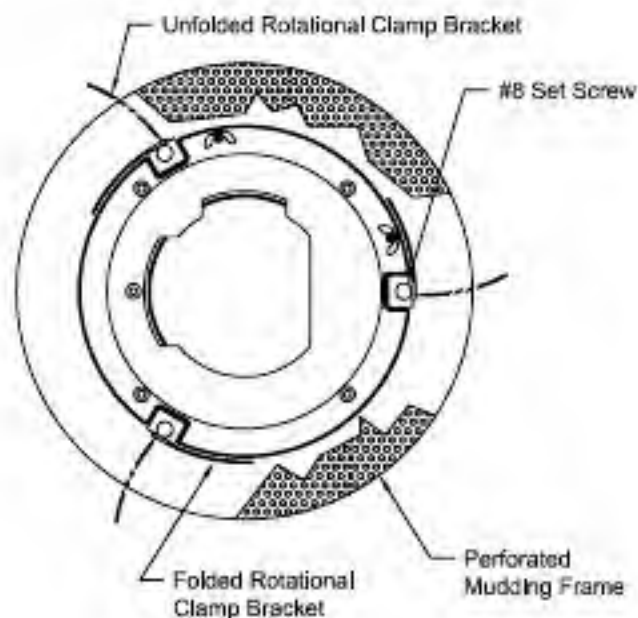
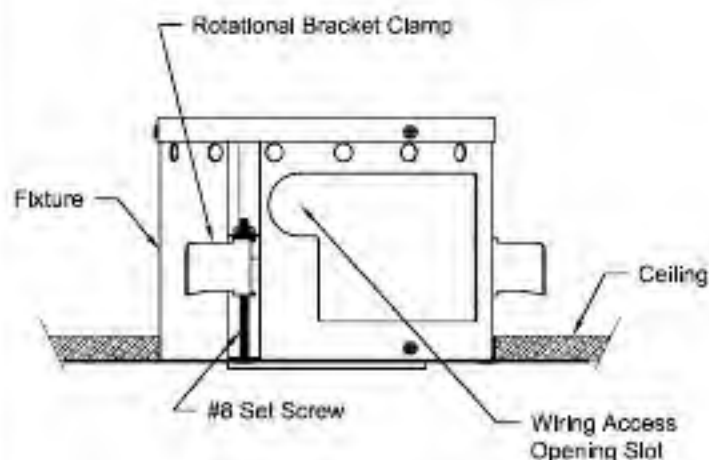
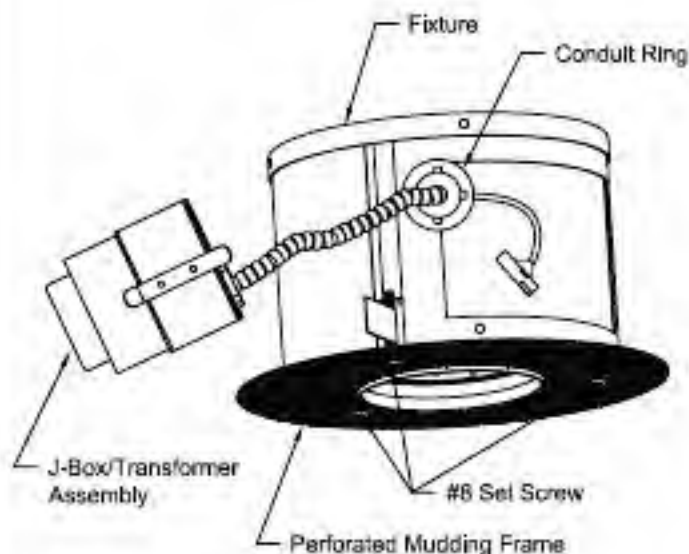

Figure 4
Figure 5
Figure 6
2. Fold three (3) Rotational Clamp Brackets tight against Fixture (See Fig. 4) making sure Brackets are in upper most (highest) threaded position (See Fig. 5) to accommodate largest ceiling thickness.
4. OPTIONAL: Retain orientation by installing two (2) or three (3) drywall/zip screws into outer perimeter of Perforated Mudding Frame.
5. Holding Fixture firm to ceiling surface, drive clockwise the three (3) #8 x 3" Set Screws (See Fig. 5) located on the underside of Perforated Mudding Frame (See Fig. 6) to rotate and lock the Rotational Clamp Brackets to the ceiling. DO NOT overtighten the Screws or Rotational Clamp Brackets. (Overtightening may crack ceiling material.)
6. Reach inside and through Fixture Wiring Access Opening and locate Lamp Socket, Flex Cable, J-Box/Transformer Assembly. See Fig. 6.
7. Pull Lamp Socket and Lamp Wiring Into Inside of Fixture. See Fig. 6.
8. Slide Conduit Ring (See Fig. 6) into Slot (See Fig. 5) in Wiring Access Opening.